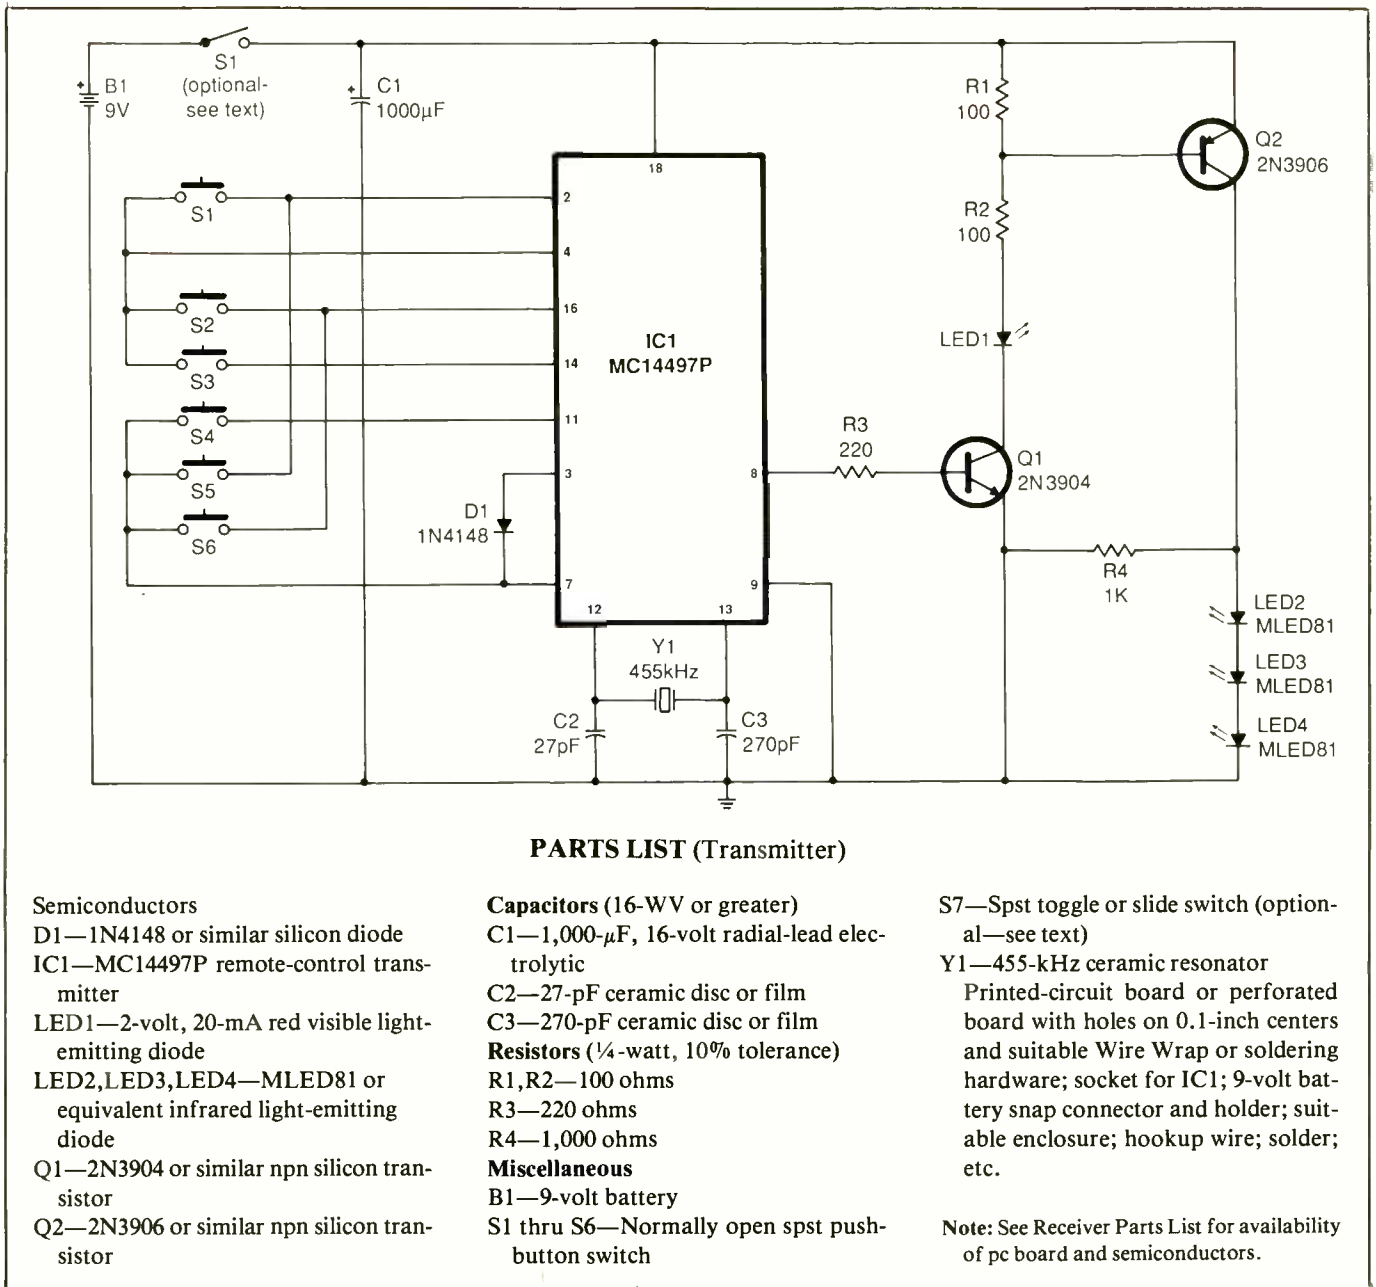

Fig. 1. Complete schematic diagram of transmitter circuit.
• **Transmitter.** Shown in Fig. 1 is the complete schematic diagram of the transmitter circuit. This one-chip circuit is powered by an ordinary 9-volt transistor battery. It provides a series of 28.4-kHz infrared energy pulses that are encoded according to which of the six pushbutton switches is pressed at any given moment.